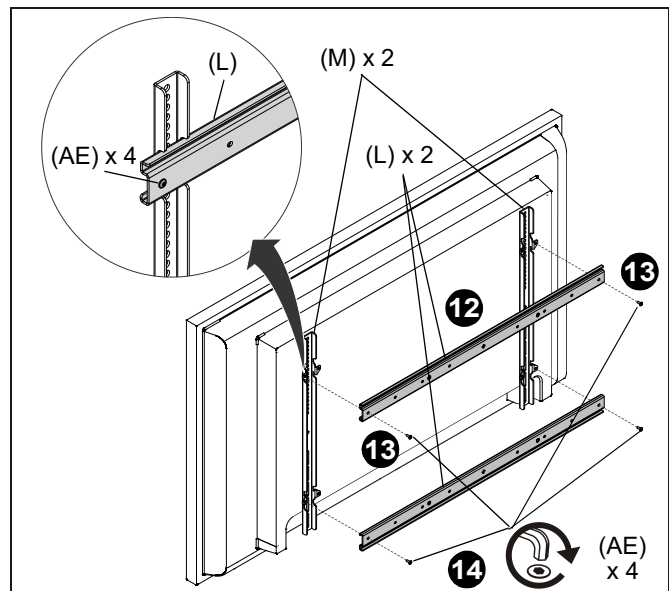

Figure 9
13. Use 1/8" hex key (AG) to secure upper horizontal interface (L) to left and right vertical interfaces (M) using four 10-24 x 1/2" button head screws (AE). (See Figure 9)
14. Repeat steps 10-13 to install lower horizontal interface (L).
**IMPORTANT !** : The orientation of, and mounting holes used, when installing the lower horizontal interface must be the same as the upper horizontal interface (L). Vertically align upper and lower interfaces by aligning holes or end of slots. (See Figure 9)